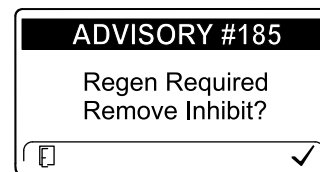

Figure 45
**Note:** If you set the InfoCenter to inhibit regeneration, the InfoCenter displays ADVISORY #185 (Figure 45) every 15 minutes while the engine requests a reset regeneration.